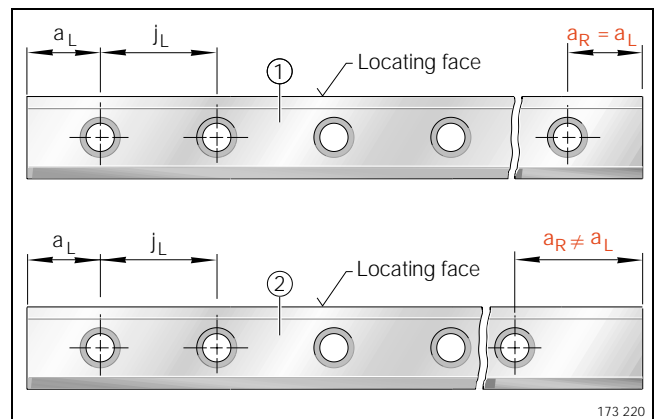

Figure 4 · Symmetrical ① and asymmetrical ② hole patterns for guideways with one row of holes
- $a_L \geq a_{L\min}$  and  $a_R \geq a_{R\min}$  (Figure 4).